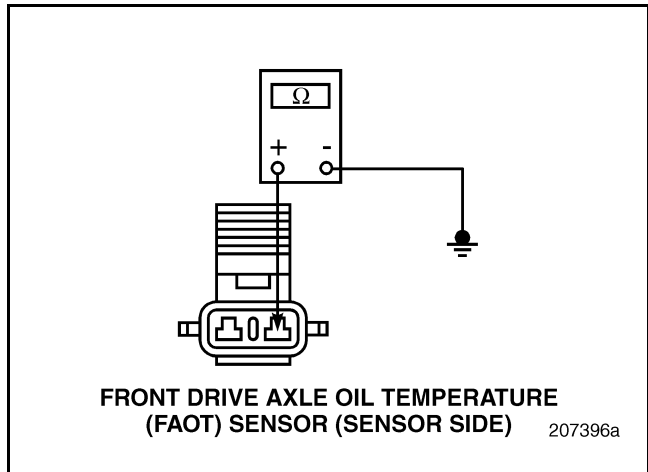

Figure 238
3. Check for continuity between either pin of the FAOT Sensor and a good ground (see Figure 238).